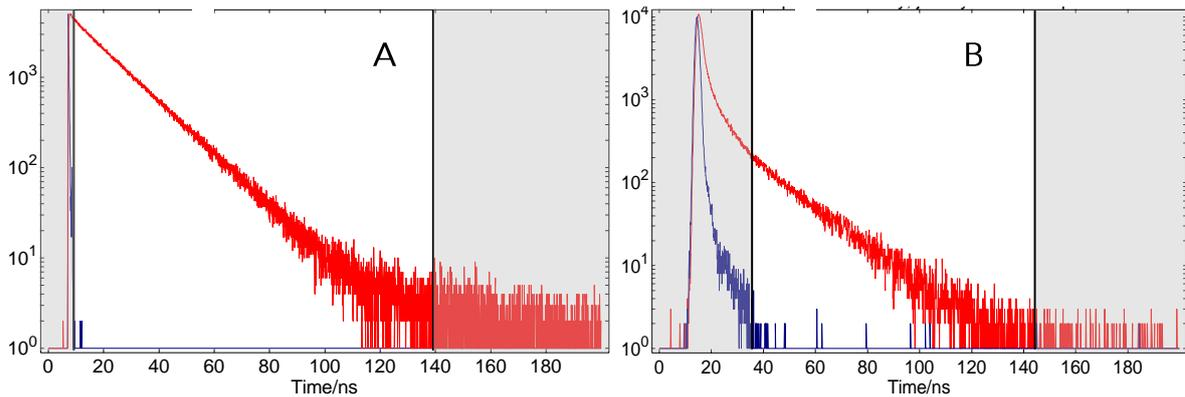
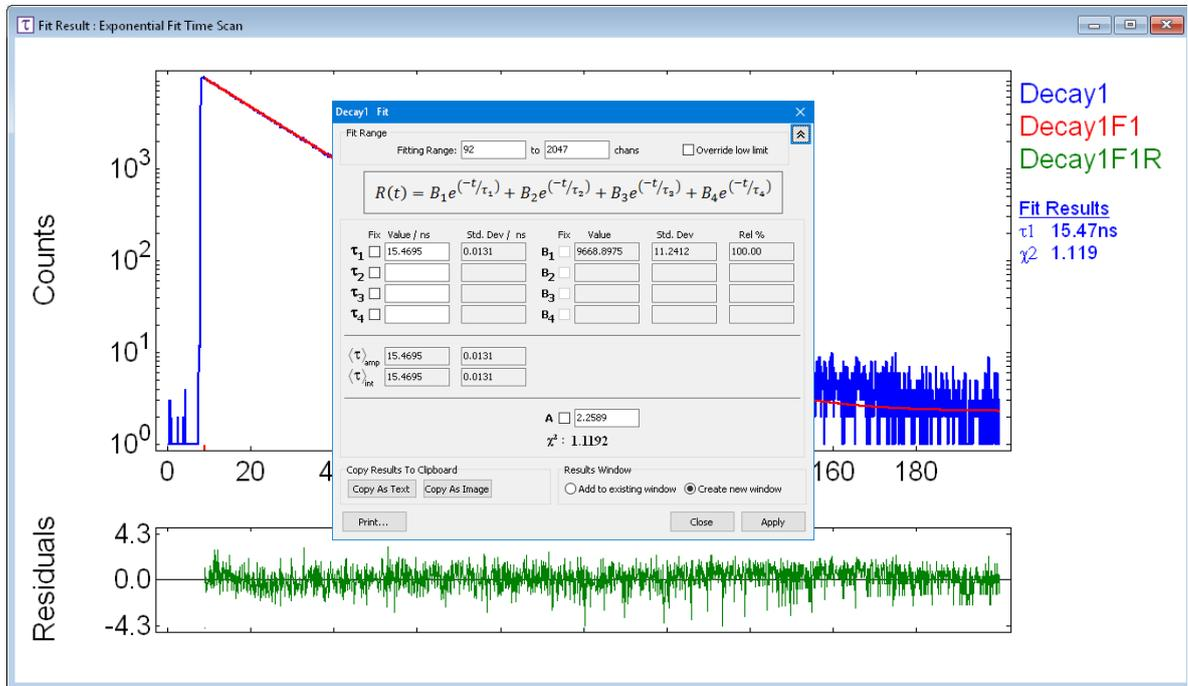
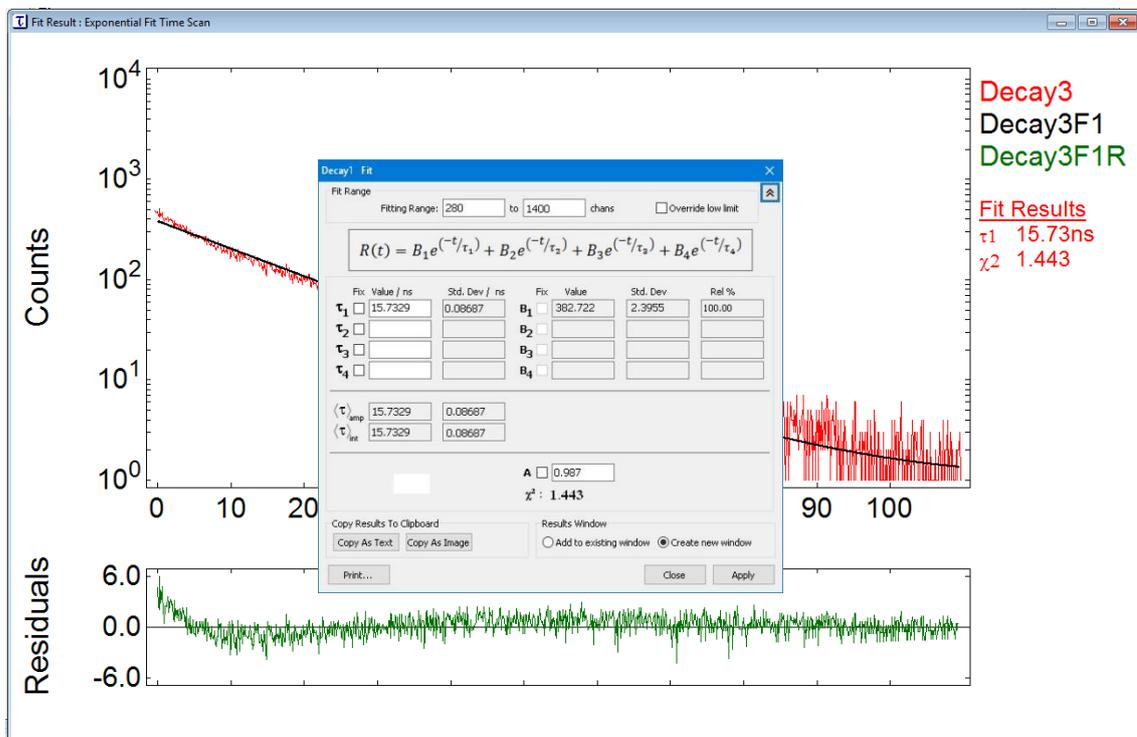

Figure 9-1: Tail fit regions, two different examples
Figure 9-3: satisfactory Tail Fit
Figure 9-4: unsatisfactory Tail Fit
Figure 9-1 below shows – on the example of two different measurements "A" and "B" – the selection of a suitable tail fit region (region with white background). The tail fit region excludes the time period for which the IRF is still present. For obtaining proper fit results, the far end of the tail should be excluded, it only contains detector background and noise and no valuable information on the decay kinetics
- 19-2 Inspect your sample decay measurement and decide whether a good model to fit to would be a single exponential decay, or a function that contains more than a single exponential term. Decay processes that are likely to be of single exponential nature are recognised by a sloping straight line in a semi-logarithmic plot (see tail fit region of decay "A" in Figure 9-1). Decays that deviate from a straight line (see tail fit region of decay "B" Figure 9-1) will not be satisfactory fitted with a single exponential term.
Figure 9-3 shows as satisfactory single exponential fit result of decay "A" of Figure 9-1. In contrast, Figure 9-4 (showing a tail fit result of decay "B" of Figure 9-1) is an example for an unsatisfactory fit result.
- 20-2 Inspect your sample decay measurement and decide whether a good model to fit to would be a single exponential decay, or a function that contains more than a single exponential term. Decay processes that are likely to be of single exponential nature are recognised by a sloping straight line in a semi-logarithmic plot (see decay “A” in Figure 9-1). Decays that deviate from a straight line (see decay “B” Figure 9-1) will not be satisfactorily fitted with a single exponential term.